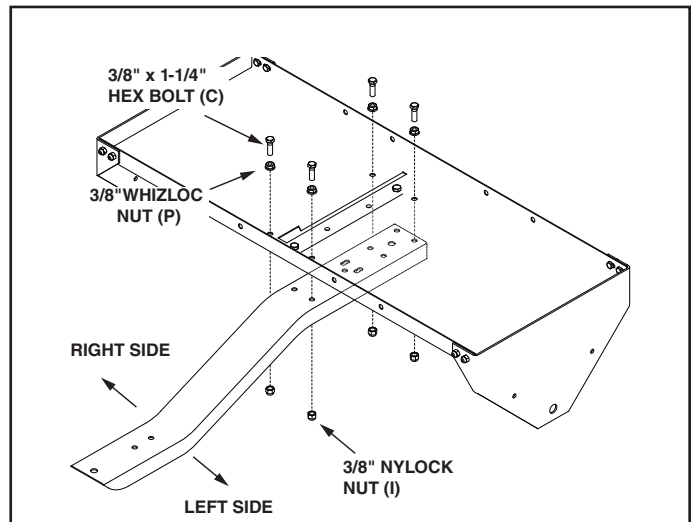

FIGURE 7
- Assemble the tongue using four 3/8" x 1-1/4" hex bolts (C), four 3/8" whizloc nuts (P), and four 1/4" nylock nuts (I). Tighten. See figure 7.